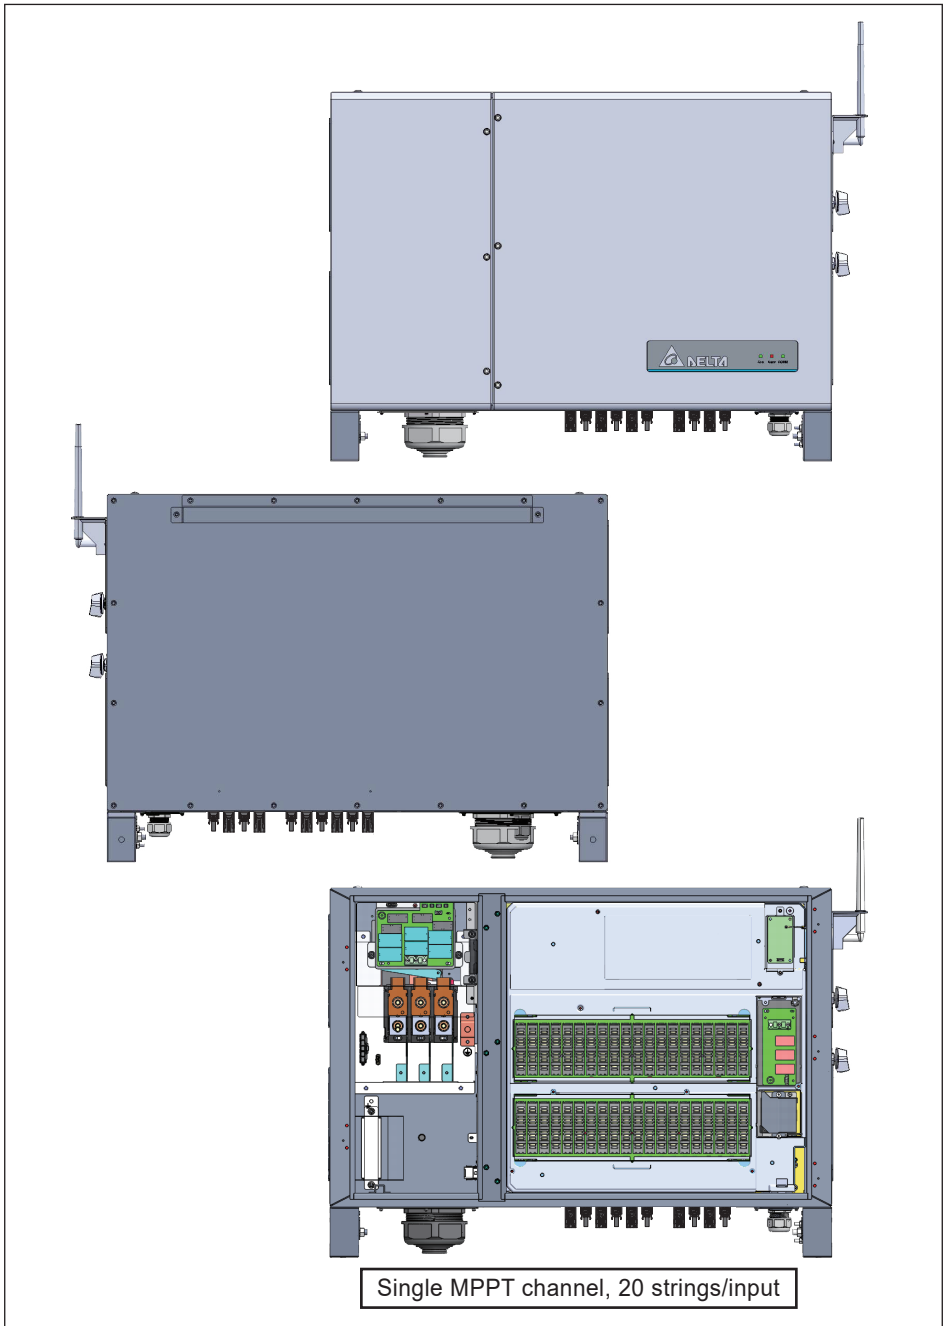
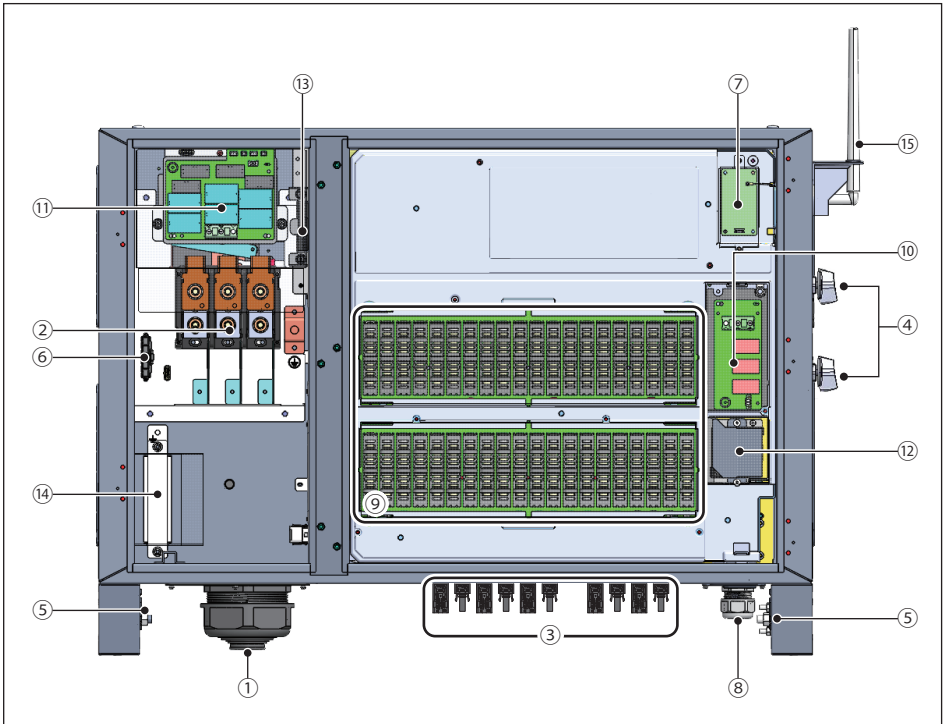

Figure 2-4: External/ internal view
Figure 2-5: Layout
In the following pages, **Figures 2-4** illustrate the general layout of and wiring area. **Figure 2-5** and **Table 2-3** provides detailed description of each wiring area option. The wiring area includes terminals for connection of the output (AC) wiring, AC surge protection devices (SPD).